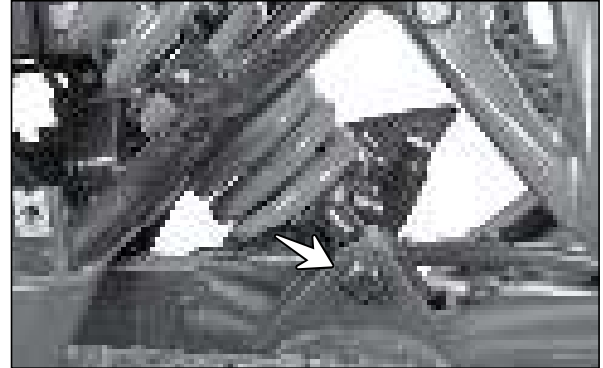

Fig. 6.147
- Remove hexagonal flange bolt (M12x52 - 1 No.) of shockabsorber rear lower mounting from swing arm complete. (Fig. 6.147)